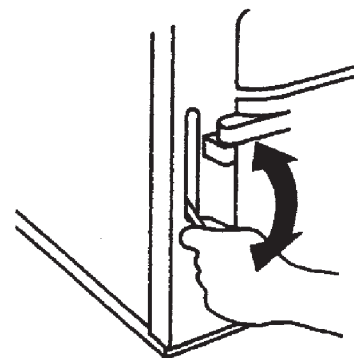
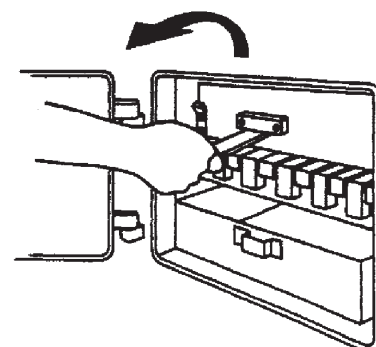

Fig. 12
Fig. 14
- De-ash (Fig. 12) and remove dead fuel from bottomgrate (lift off clinker door above the bottomgrate (Fig. 14), rake fuel into ashpan replace clinker door).
- De-ash (Fig. 12) and remove clinker door (Fig. 14). Insert flat bayonet type gas poker on top of bottomgrate bars.
To de-ash, riddle the grate by agitating the riddling handle in an up and down manner 10-20 times to free the grate of ash. See Fig. 12.